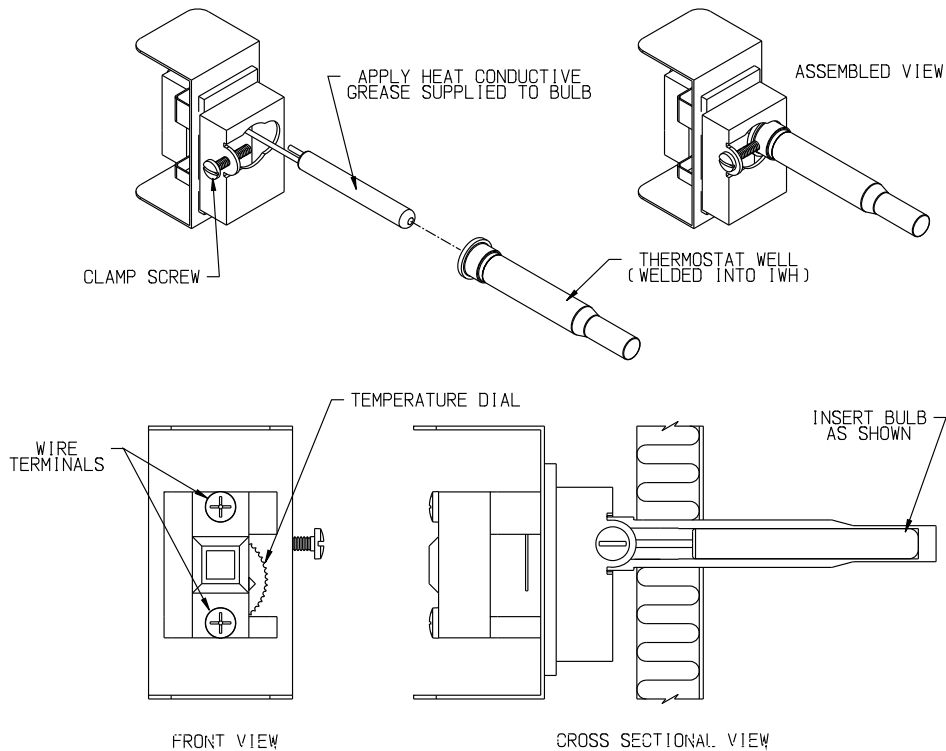

Figure 5.5: Aquastat Installation
- a. Temperature Control (required) - This control is provided by the factory and must be installed in the control well location shown in Figure 2.2. Remove the cover and loosen the clamping screw. Apply the silver heat conductive compound supplied to bulb. Insert the capillary bulb so that it is "bottomed out" in the control well as shown in Figure 5.5 and screw the control clamp securely in the well groove at the end of the well. See Section 6 for wiring details and Section 7 for instructions on adjusting the temperature setting.